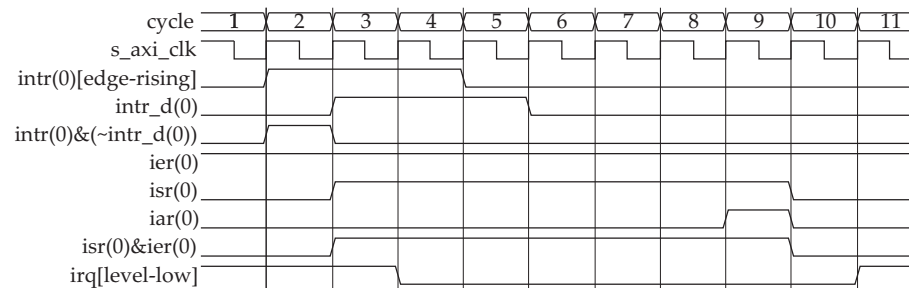

Figure 22: Input Intr - Edge Sensitive (Rising) and Output Irq - Level Sensitive (Active Low)
12. Configured Input Interrupt (Intr) for Edge sensitive (rising) and Output Interrupt Request (Irq) to Level sensitive (active Low) and is shown in Figure 22.